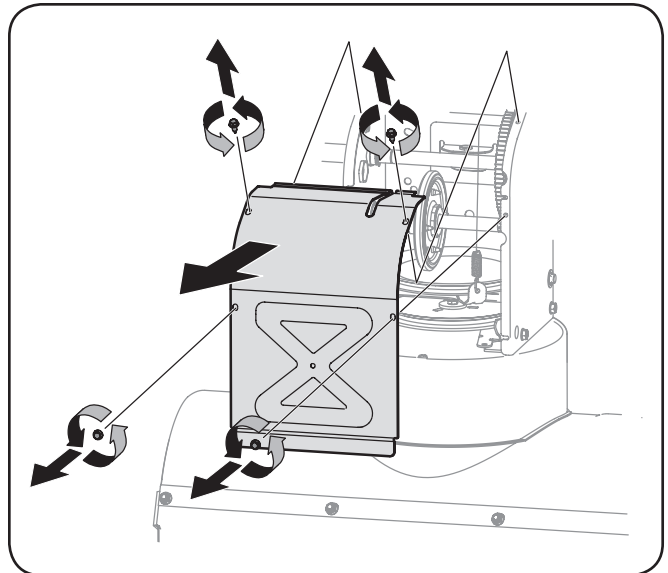

Figure 7-3
3. Remove the frame cover from the underside of the snow thrower by removing the self-tapping screws which secure it. Refer to Figure 7-3.
5. Remove the frame cover from the underside of the snow thrower by removing the self-tapping screws which secure it. See Figure 7-3.
3. Remove the frame cover from the underside of the snow thrower by removing four self-tapping screws which secure it. See Figure 7-3.